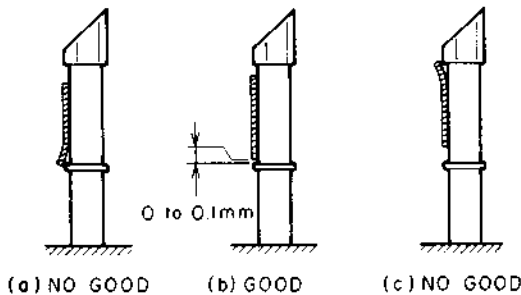

Fig. 4-7
1) Turn the NUT (a) for coarse A/C BLOCK height adjustment as in Fig. 4-7, 8.
- 3) Depress the REV button (REVIEW mode) confirm the curl at the tape down edge is not existed at the TAPE GUIDE as shown in Fig. 4-7. Fig. 4-7 (c) is not acceptable, but Fig. 4-7 (b) is acceptable).